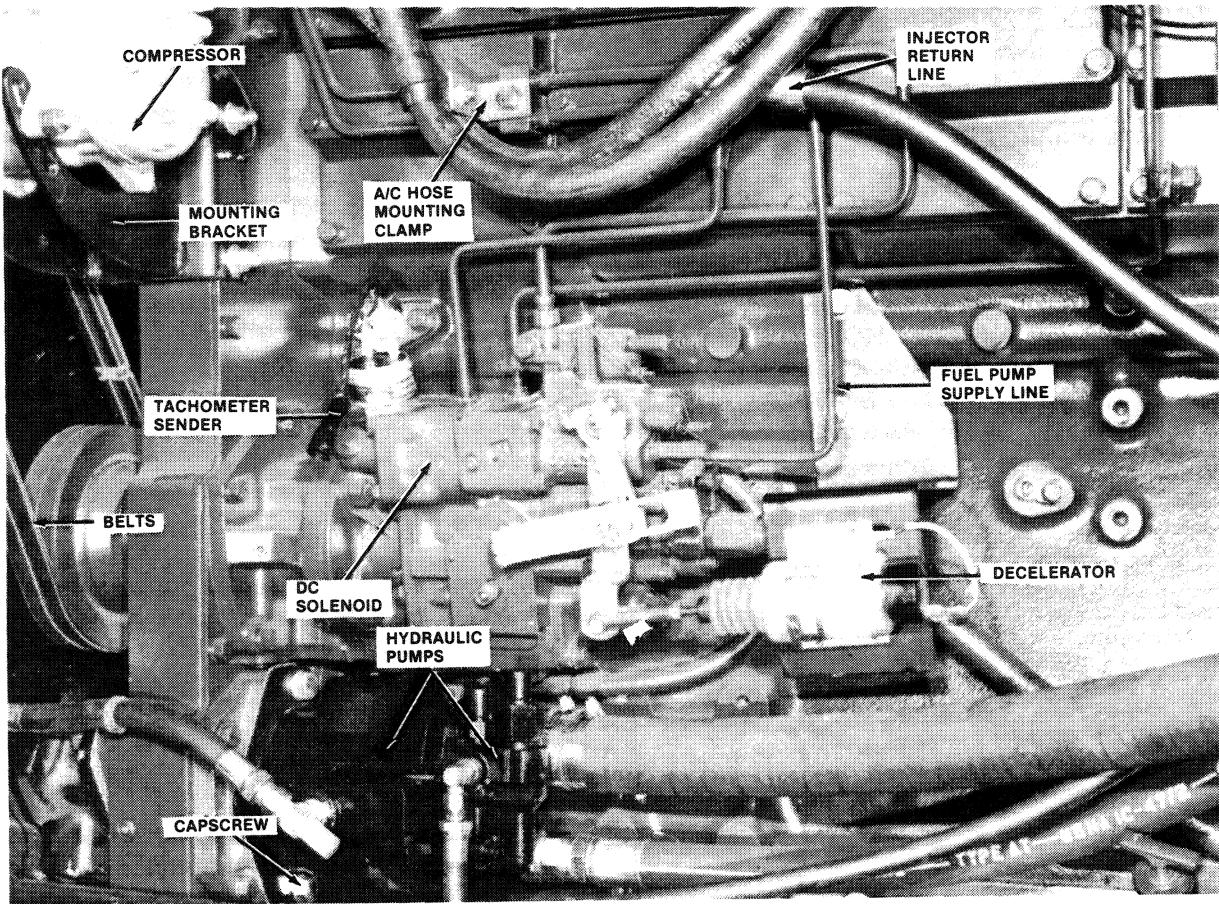

FIGURE 2-5: Engine Left Side
20. Remove air conditioning hoses mounting clamp from engine (Figure 2-5).